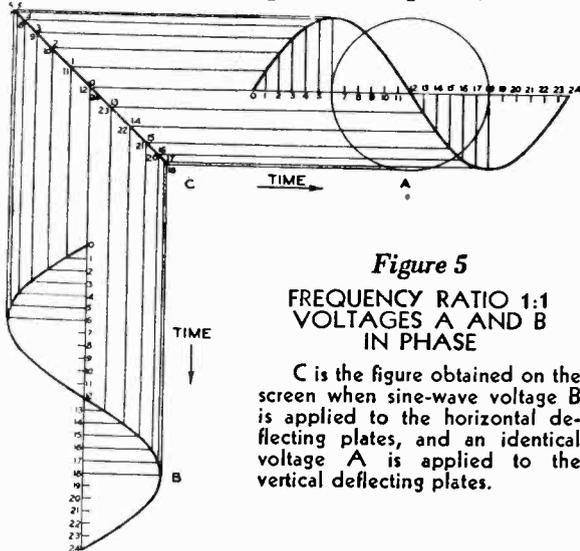
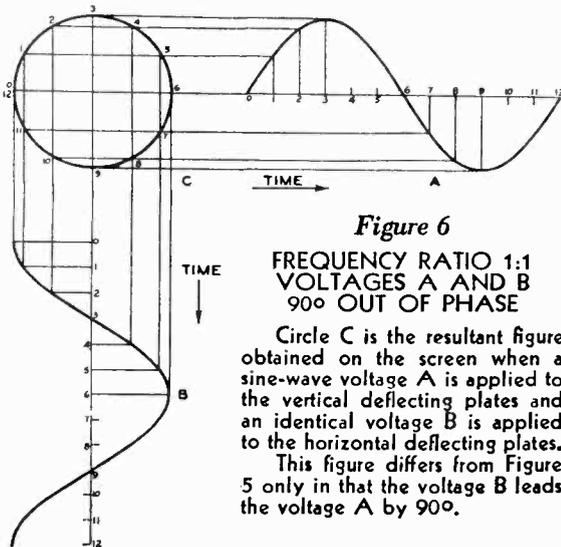

Figure 5
Figure 6
Figure 5 represents a sine-wave voltage (A) applied to the vertical pair of deflecting plates of a cathode-ray tube and an identical voltage (B) applied to the horizontal deflecting plates. The resulting pattern, shown by (C), is a straight line having a 45-degree slope. The direction of the slope of this line is determined by the phase relation of the two voltages as illustrated in Figures 10A and 10E.* Figure 6 illustrates the case of two identical voltages having the same amplitude but 90 degrees, or 270 degrees, out of phase. In this case, the resulting figure is a circle. If one of the figures is of greater amplitude
than the other, the resulting figure will be an ellipse as shown by Figure 10C. If the phase relation is such that one voltage leads by 45 degrees, or 315 degrees, the resulting pattern will be that of Figure 10D; if leading by 135 degrees, or 225 degrees, the resulting pattern will be that of 10B. Figures 5 to 9 inclusive, show a graphical method for determining the resulting pattern, where the wave shapes, the relative amplitudes, the phase relation, and the frequencies of the two deflecting voltages are known. By means of the cathode-ray tube, the resultant pattern is traced on the fluorescent screen. Conversely, from this pattern, the frequency, and the phase relations of the two deflecting voltages can be determined. Where, in addition, the wave form is known for one of the deflecting voltages, the wave form of the other can readily be obtained by graphical analysis.
Figures 5, 6, and 10A to 10E are for a 1:1 frequency ratio. When a 2:1 frequency ratio of the voltages applied to the deflecting plates is the case, the wave shapes of Figures 10A to 10E become those shown by Figures 10F and 10J.
Circle C is the resultant figure obtained on the screen when a sine-wave voltage A is applied to the vertical deflecting plates and an identical voltage B is applied to the horizontal deflecting plates. This figure differs from Figure 5 only in that the voltage B leads the voltage A by 90°.